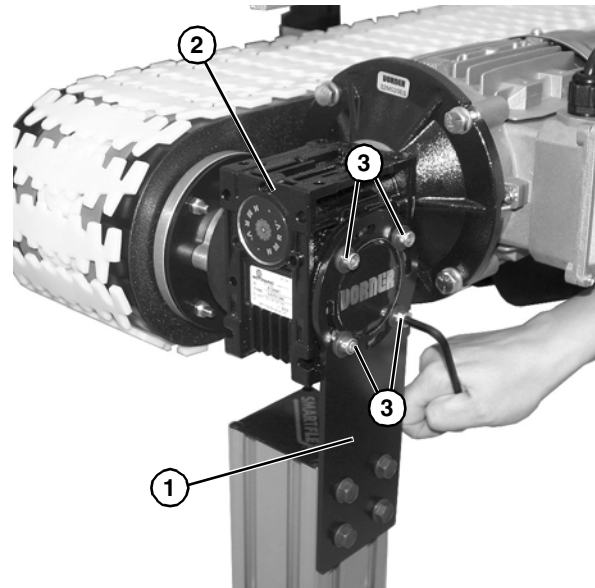

Figure 5
1. Install gearmotor mount (**Figure 5, item 1**) onto motor (**Figure 5, item 2**) with four socket head screws (**Figure 5, item 3**).